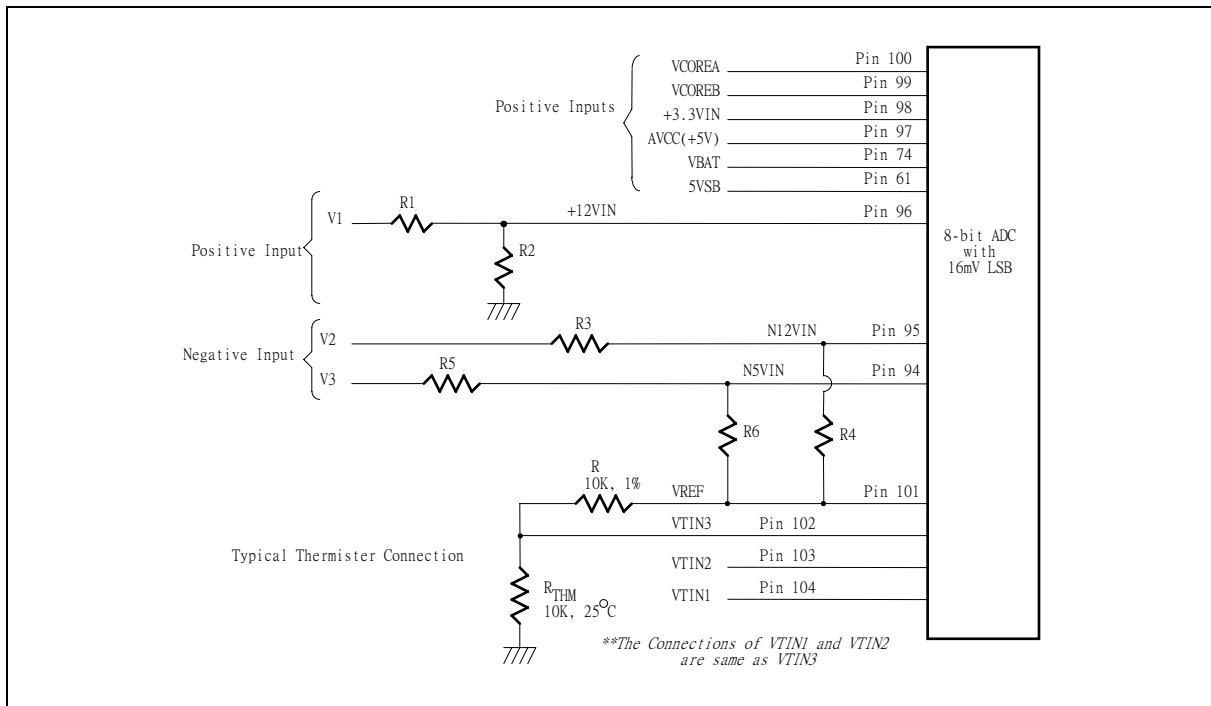

Figure. 8.2
The maximum input voltage of the analog pin is 4.096V because the 8-bit ADC has a 16mV LSB. Really, the application of the PC monitoring would most often be connected to power suppliers. The CPU V-core voltage, +3.3V, battery and 5VSB voltage can directly connected to these analog inputs. The +12V,-12V and -5V voltage inputs should be reduced a factor with external resistors so as to obtain the input range. As Figure 8.2 shows.
The negative voltage should be connected two series resistors and a positive voltage VREF (is equal to 3.6V) . In the Figure 8.2, the voltage V2 and V3 are two negative voltage which they are -12V and -5V respectively. The voltage V2 is connected to two serial resistors then is connected to another terminal VREF which is positive voltage. So as that the voltage node N12VIN can be obtain a posedge voltage if the scales of the two serial resirtors are carefully selected. It is recomanded from Winbond that the scale of two serial resistors are R3=232K ohm and R4=56K ohm. The input voltage of node N12VIN can be calculated by following equation.
The W83627HF can connect three thermistors to measure three different envirmnt temperature. The specification of thermistor should be considered to (1)  $\beta$  value is 3435K, (2) resistor value is 10K ohms at 25°C. In the Figure 8.2, the themistor is connected by a serial resistor with 10K Ohms, then connect to VREF (Pin 101) .